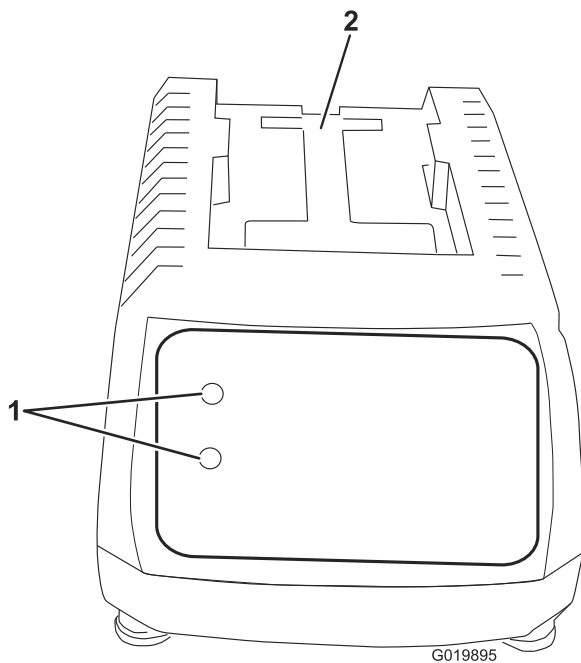
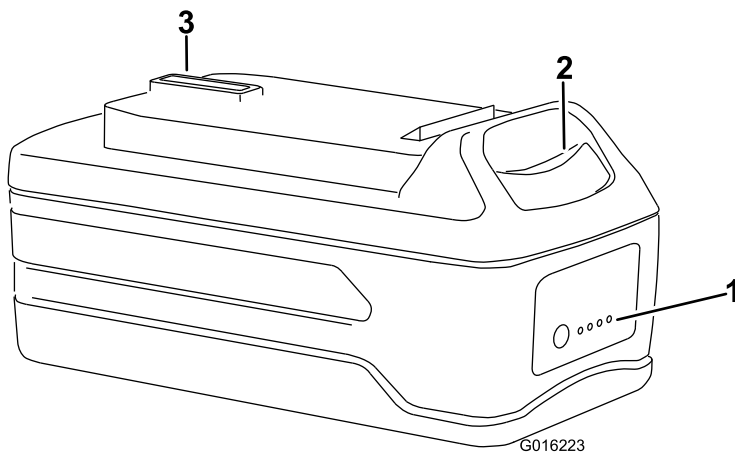

Figure 4
Figure 5
1. Turn the battery upside down and line up the battery terminal with the slot in the charger (Figure 4 and Figure 5).